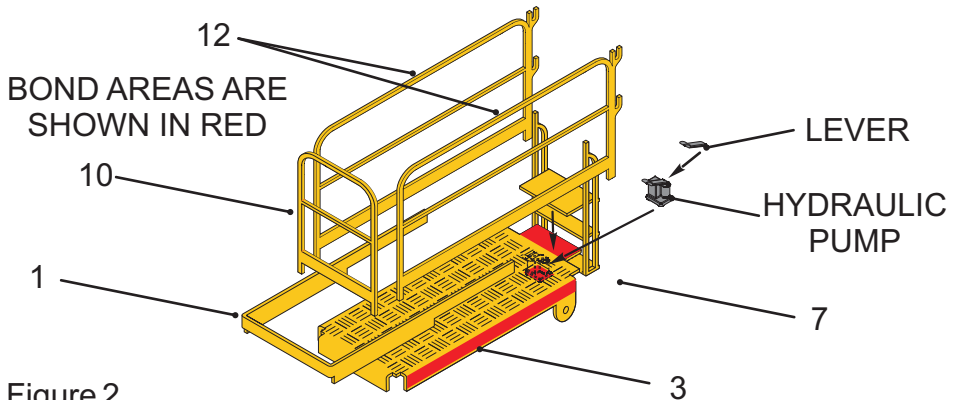

Figure 2
- 3 Platform Assembly (see Figure 2)
- A Make sure that the capping (1) fits the platform (3), and that the hand rails (11 and 2 x 12) fit into the sockets at the corners of the platform, then attach the capping with the top of the capping level with the platform top face.
- C Attach the top tread of the ladder (7) to the tab on the platform (3).